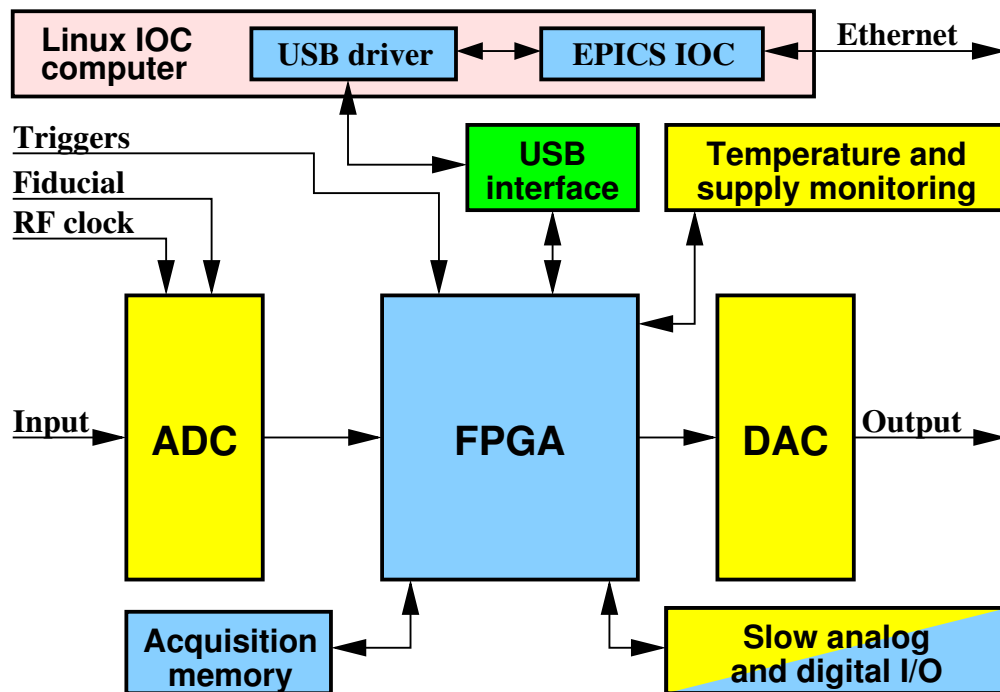

Figure 1: iGp12-470F block diagram
A top-level block diagram of the iGp12-470F system is shown in Figure 1. The main signal processing chain consists of a high-speed 12-bit **analog-to-digital converter (ADC)**, a **field programmable gate array (FPGA)**, and a high-speed 12-bit **DAC**, all driven by the **radio frequency (RF)** clock. In addition to performing real-time control computations, the **FPGA** interfaces to a number of on-board devices, such as high-speed data acquisition memory (**static random access memory (SRAM)**), low-speed analog and digital **input/output (I/O)**, as well as temperature and supply voltage monitors. In turn, the **FPGA** uses an internal **universal serial bus (USB)** connection to communicate to an embedded **input-output controller (IOC)** computer housed in the same chassis. The **IOC** runs the **Linux** operating system and is connected to the overall control system via the **Ethernet**.